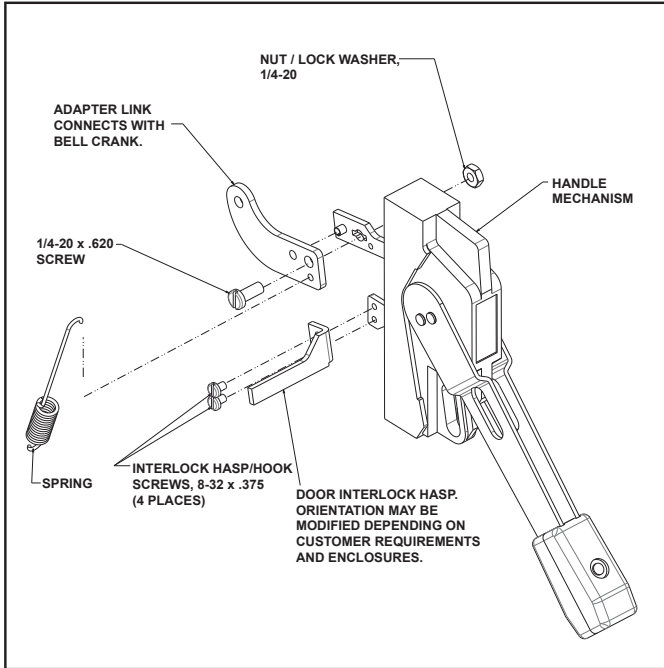

Fig. 1-2 Outer Handle Mechanism Assembly.
7. Mount door interlock hasp to handle using two #8-32 SEMS screws. See Fig. 1-2. Hasp orientation may be modified per customer requirements and enclosures.